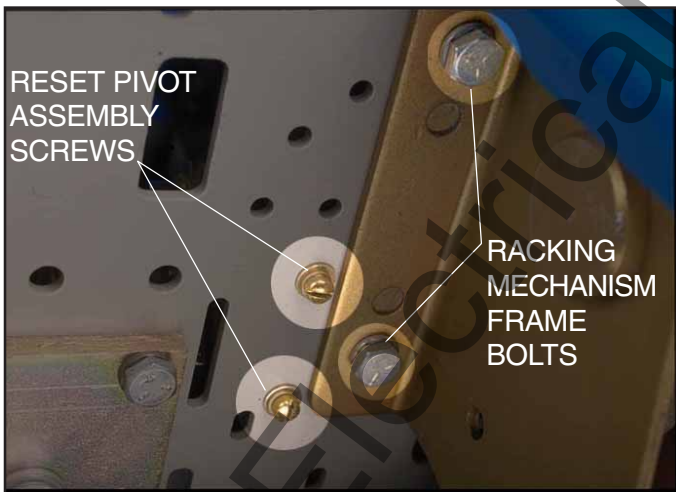

Fig. 13 Reset Pivot Assembly Screw Locations.
- D. Remove and scrap the original hardware securing the left side Racking Mechanism Frame to the bottom of the Breaker Shelf. (See Fig. 13 for bolt location.)